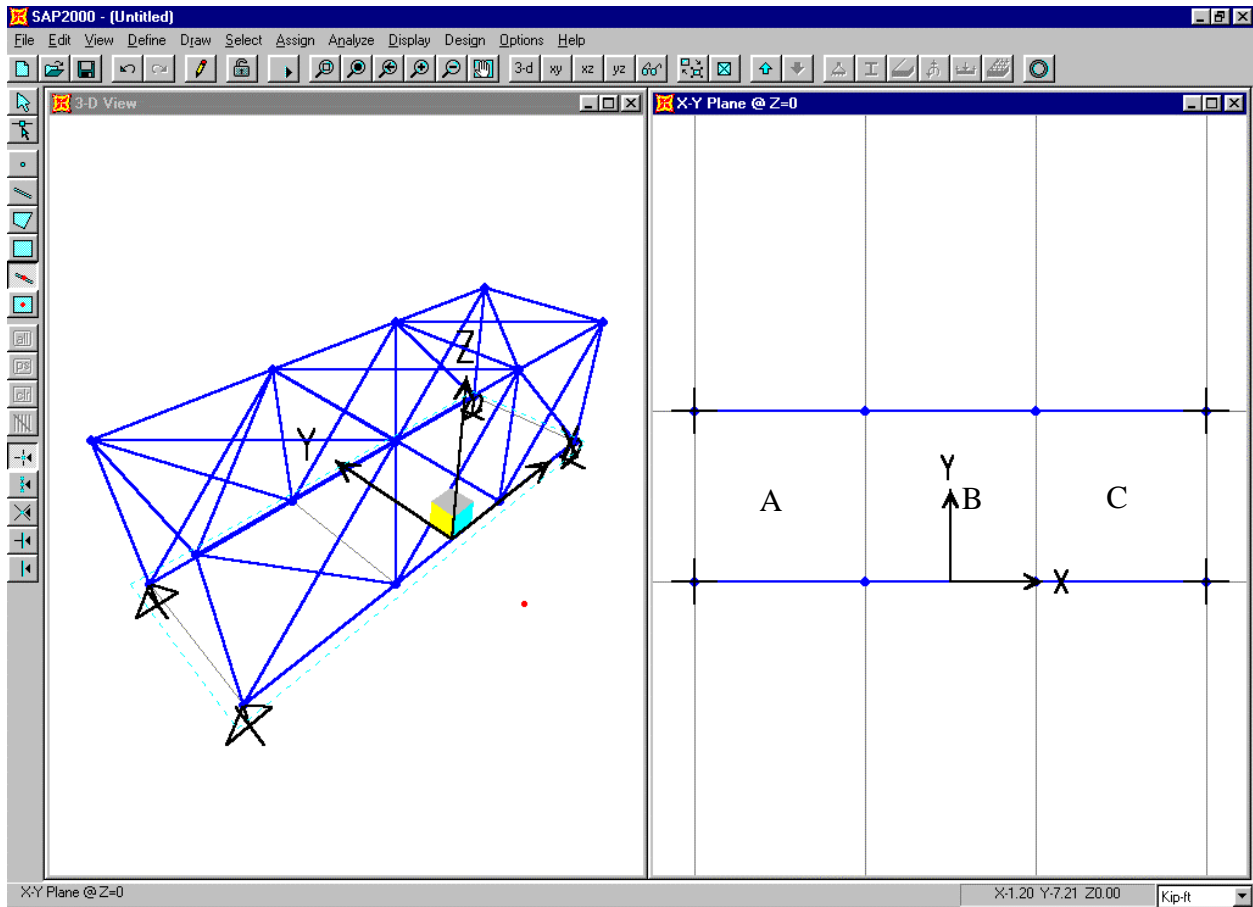

Figure X-2: View of Screen After Step 15
- 15. Click the **Down One Gridline** button  on the main toolbar to display the X-Y Plane @ Z=0. The screen appears as shown in Figure X-2.
17. Click on the points labeled “A”, “B” and “C” in Figure X-2 to enter three shell elements spanning between the two vertical frames.